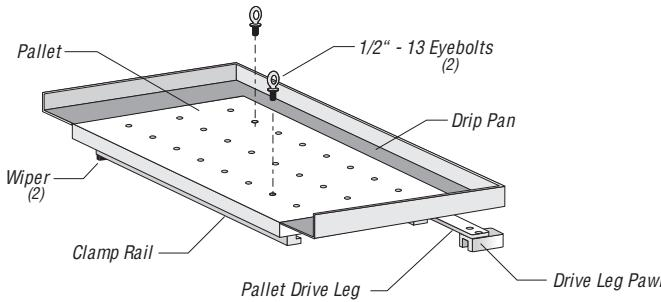
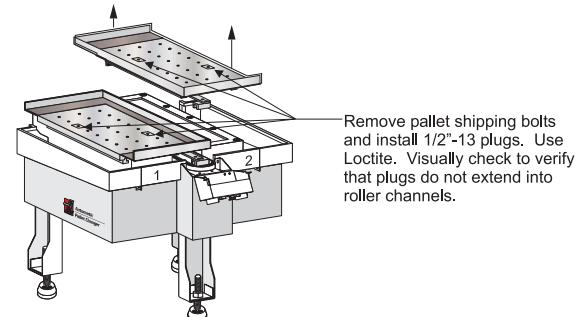

Figure 2.11 Lifting eyebolt locations.
Figure 2.12 Pallet placement.
- 18.** Insert two 1/2"-13 eyebolts into each pallet (see Figure 2.11). Attach straps or chains to the eyebolts, and use a forklift or hoist to lift each of the pallets onto the APC. Ensure that each pallet is placed with its drive leg pawl under the APC operator's panel, and that the APC rollers fit into the grooves on the bottom of the pallets (see Figure 2.12).